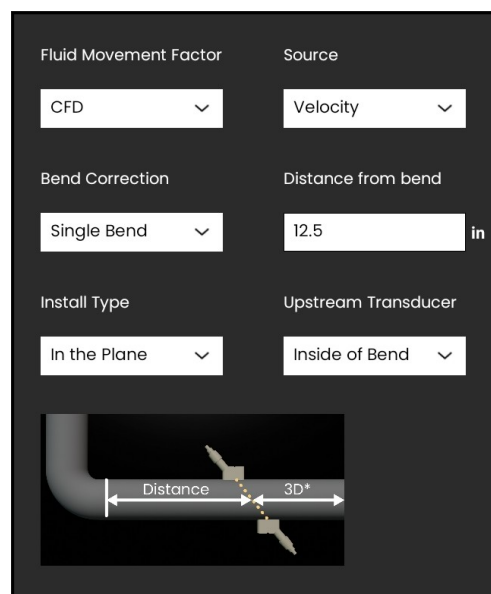

Figure 102: 1 Traverse Upstream Transducer Inside of Bend Option
10. If the upstream transducer is inside the elbow formed by the pipes of the bend, INSIDE OF BEND should be selected, as shown in *Figure 102*.